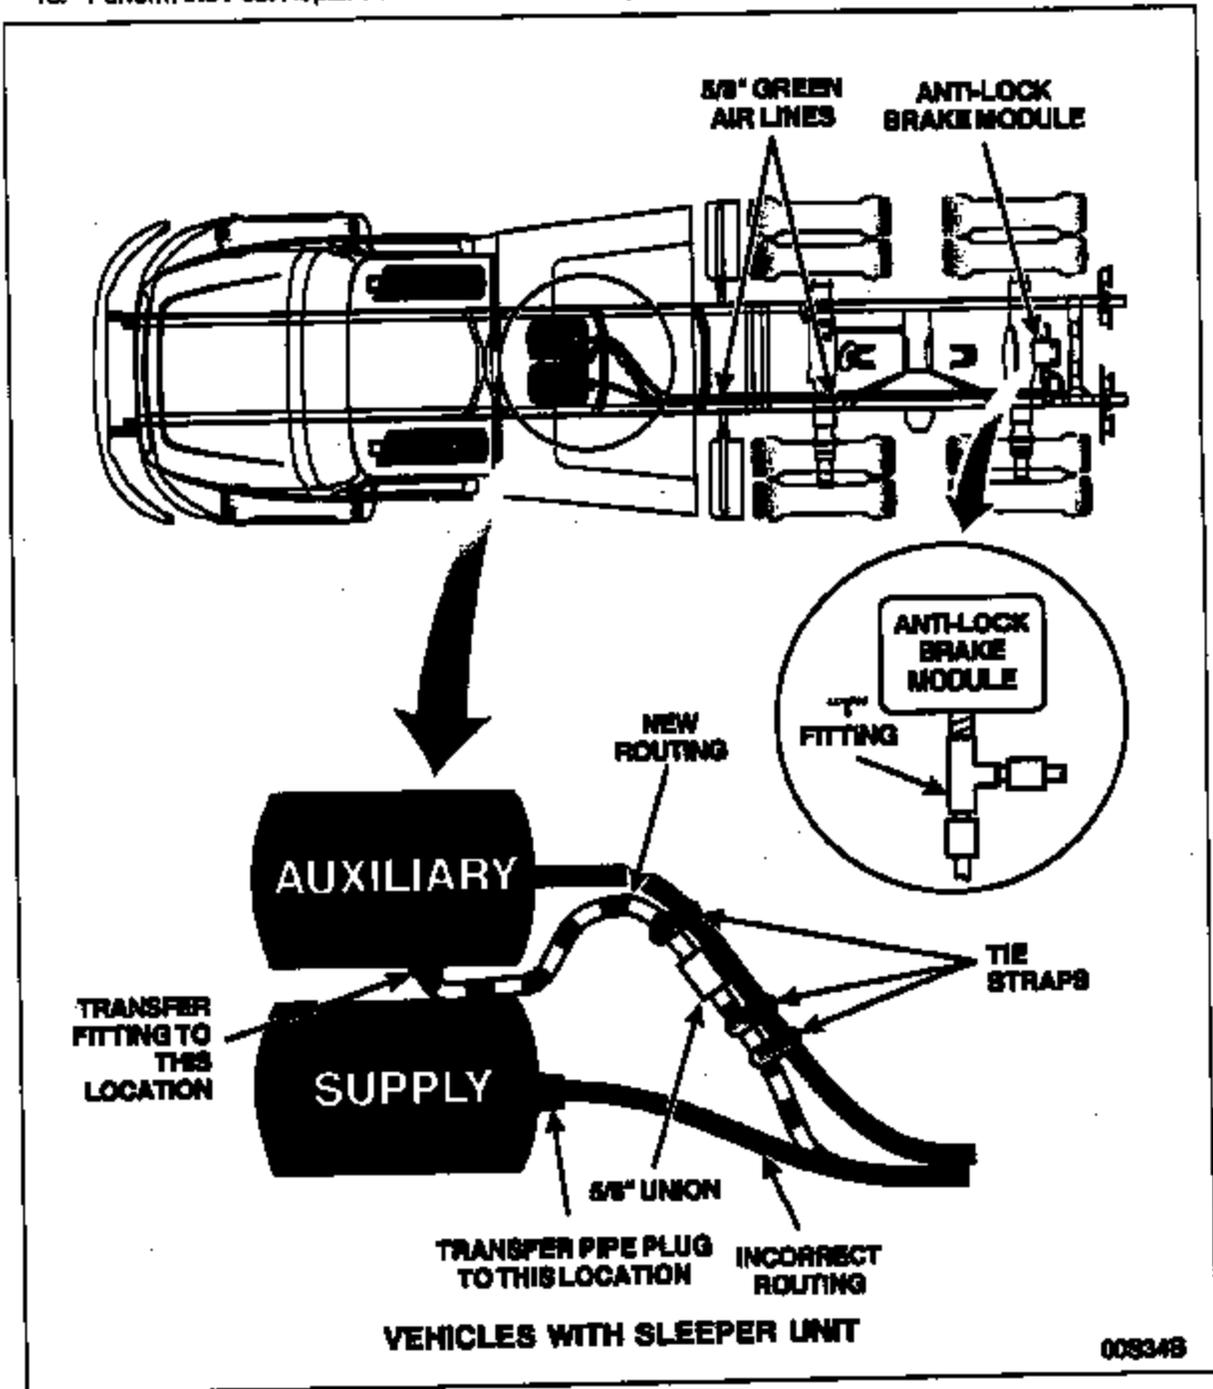

FIGURE 2
**NOTE: REFER TO FIGURE 2 FOR ALL COMPONENT LOCATION AND AIR LINE ROUTING ON VEHICLES WITH SLEEPER UNITS.**
1. **NOTE:** Two (2) green 5/8-inch air lines may enter the supply tank. The air line at the rear of the tank is routed to the anti-lock brake module.